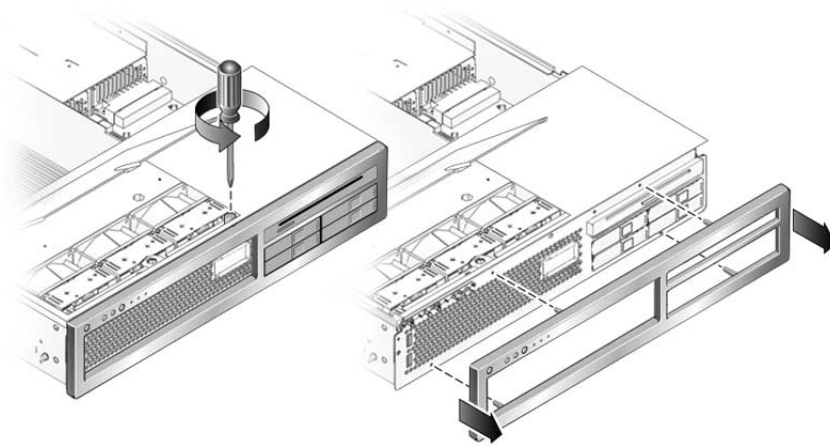

FIGURE 5-4 Removing the Front Bezel From the Server Chassis
3. Loosen the captive screw (near the farthest right fan) that secures the bezel to the chassis (FIGURE 5-4).
4. Remove the front bezel from the chassis (FIGURE 5-4).